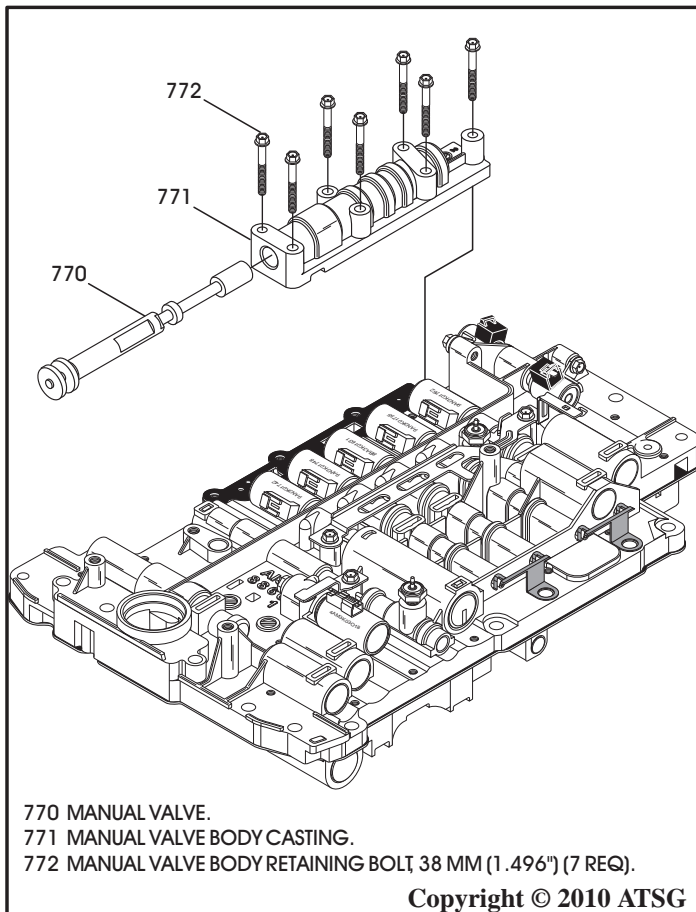

Figure 167
1. Lay the valve body assembly on a flat work surface, as shown in Figure 167.
2. Remove the seven bolts retaining the manual valve body, as shown in Figure 167.
3. Remove the manual valve body and manual valve, as shown in Figure 167.